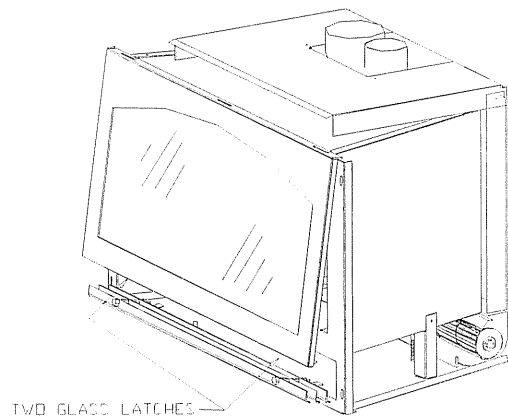

Figure J-1
3. REPLACE THE GLASS / BLACK FRAME. Refer also to Figure J-1.